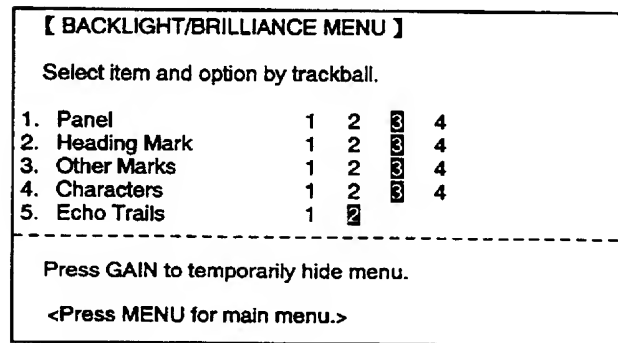

Figure 1-7 Backlight/brilliance menu
- 3) Press the **ENTER** key. Figure 1-7 shows the Backlight/Brilliance menu.